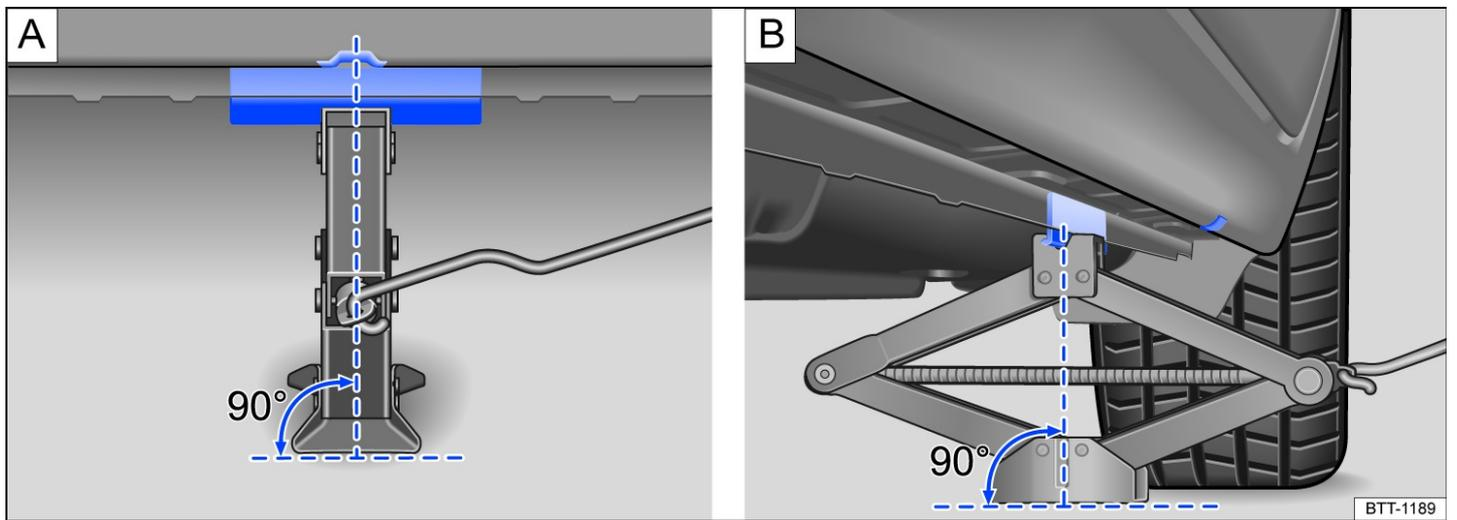

Fig. 212 Jack positioned on the left rear side of the vehicle.
10. Make sure the entire base of the jack is seated securely on the ground and that the base of the jack is located directly below the lift point fig. 212 **A** and **B**.
11. Align the jack and continue raising the bracket on the top of the jack until the bracket is positioned on the brace below the vehicle fig. 212.
- Only place the vehicle jack at the locations described. The bracket on the vehicle jack must firmly grip the sill fig. 212.